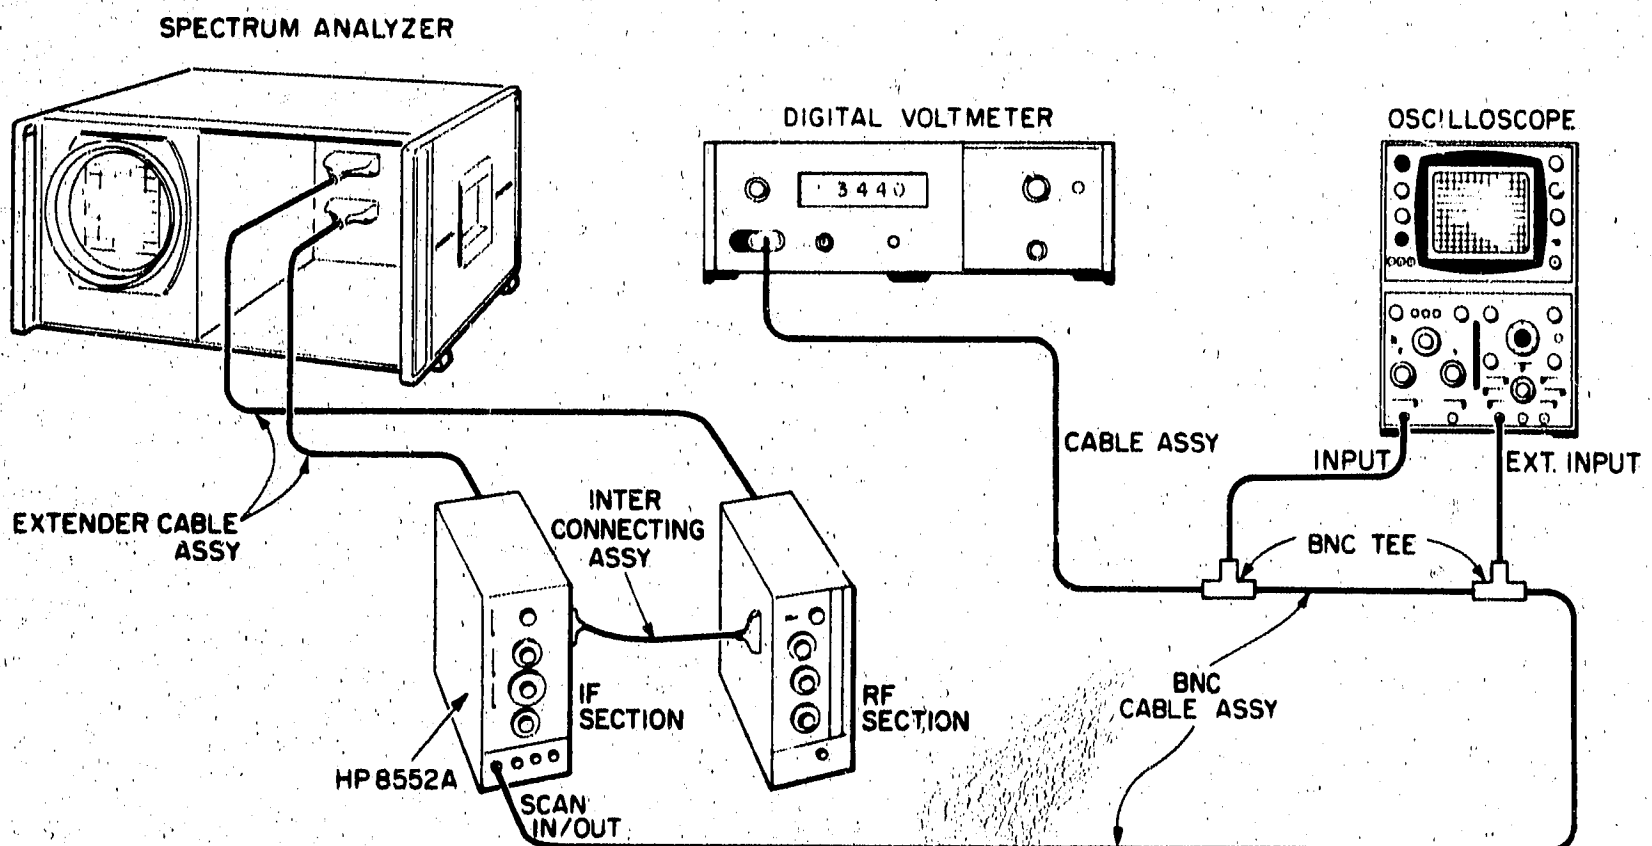

Figure 5-2. Scan Generator Check and Adjustment Test Setup.
1. Connect the test setup shown in Figure 5-2 and make the following control settings: